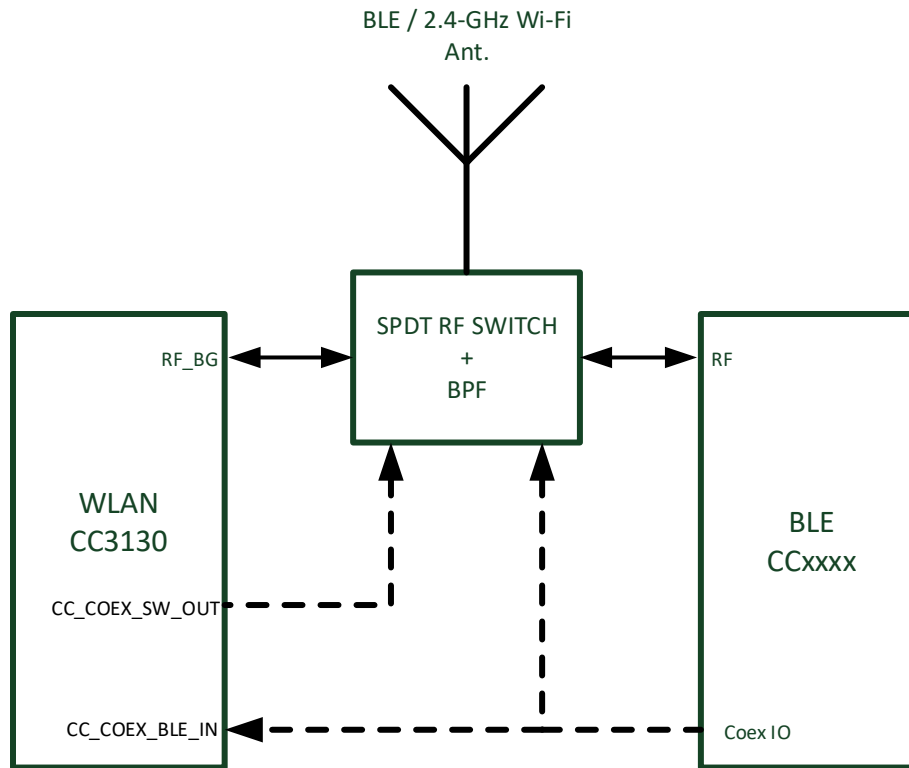

Figure 10-1. Single-Antenna Coexistence Mode Block Diagram
- In this mode, (see Figure 10-1) the two entities share the antenna through an RF switch using two GPIOs (one input and one output from the WLAN perspective).
Figure 10-1 shows the single antenna implementation of a complete Bluetooth® low energy and WLAN coexistence network. The Coex switch is controlled by a GPIO signal from the BLE device and a GPIO signal from the CC3130 device.